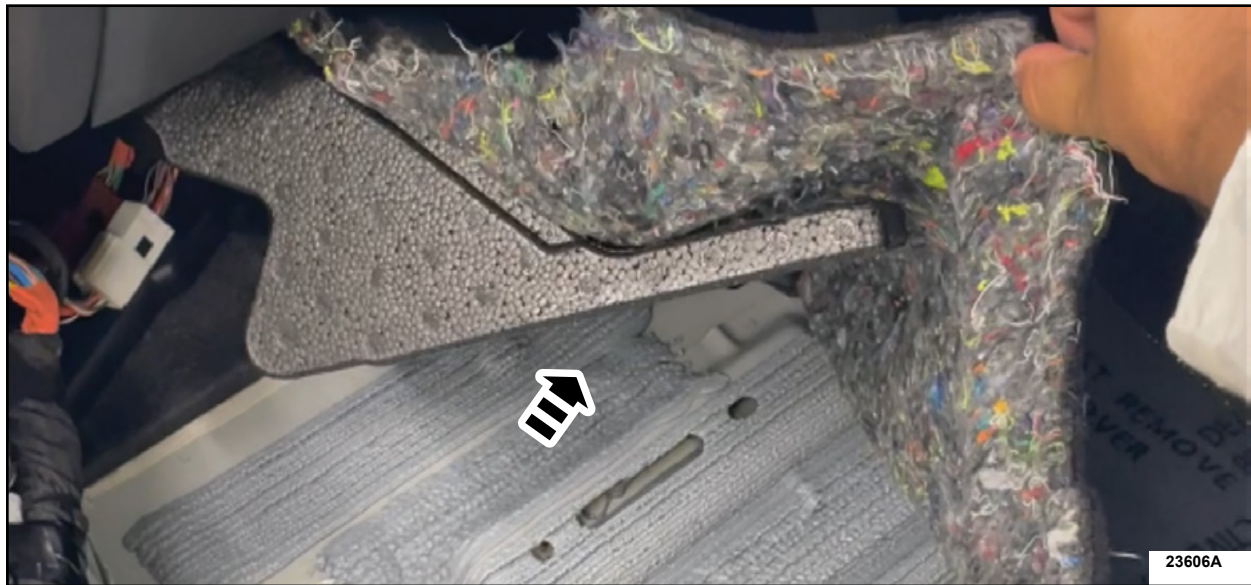

FIGURE 1
2. Position aside the left side front carpet to access the Body-to-Body in-line connector. See Figure 1.